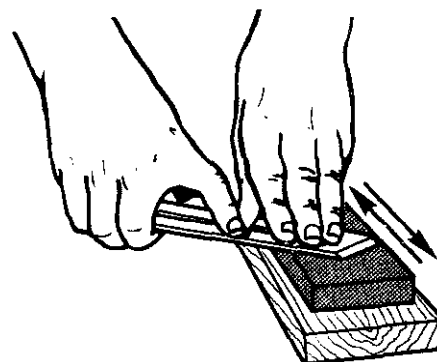

Fig. 8-61 Whetting the straight side.
5. After six to twelve strokes, when the feather edge is formed on the plane iron, turn the stone to the fine side and hold the flat side of the iron in tight contact with the stone. Hold the plane iron firmly in this position and stroke it over the full length of the stone, figure 8-61. Keep the left hand on top of the cutter to avoid lifting it.